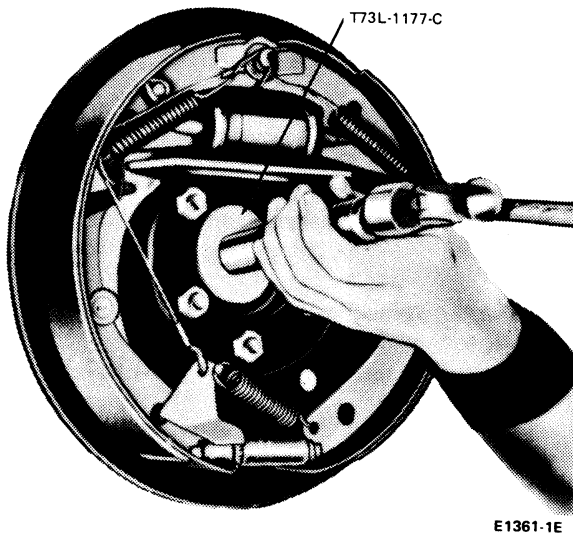

FIG. 11 Installing Rear Wheel Bearing Oil Seal
4. Install the new oil seal with the tools shown in Fig. 11.
5. **Install the axle oil seals in the ends of the rear axle housing with tool shown in Fig. 11, if so equipped.**